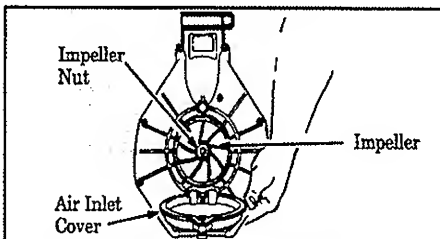

Figure 13
2. Open the air inlet cover. Remove the impeller nut and washers while holding impeller. Figure 13.